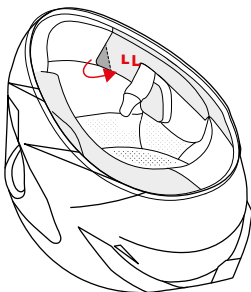

FIGURE 10
**Removing the pads — Figure 10**